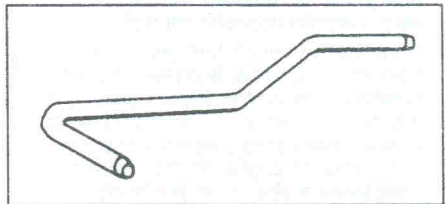

Fig. 1.12. — The special rod (Tool No. 7014-T.J.) is used to lock the crankshaft in the timing position. A removed engine facilitates the operation.
injection pump sprocket. Two bolts of 8 mm diameter are now inserted into the sprockets and the holes. The crankshaft must also be locked. The workshop uses the special tool shown in Fig. 1.12. The shape of the tool is required to insert it, if the engine is fitted. If the engine is removed, a straight drift/pin can be inserted. The drift/pin is inserted through the cylinder block and into the flywheel. There is of course no need for this operation, if the engine is completely dismantled. Having prepared the engine as described, proceed as follows:
- Refer to Fig. 1.12 and slacken the nut (1). Again there are no problems when
- Slacken the screw (2) in Fig. 1.12 with a 5 mm Allen key and apply an open-ended spanner (10 mm A/F) to the eccentric adjuster. Turn the adjuster in clockwise direction to slacken the toothed belt, push the tensioning roller towards the outside and tighten the nut (1) in the new position of the tensioning roller.